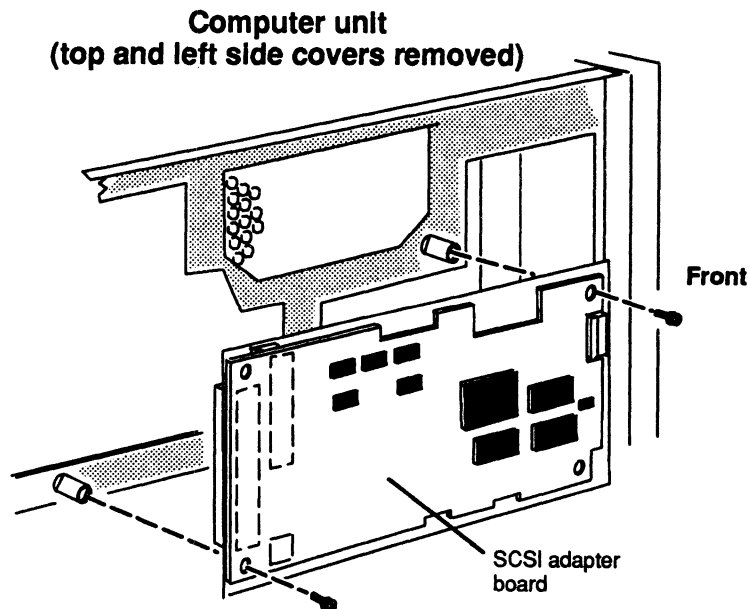

Figure 6-16 Removing or Installing the Screws that Attach the SCSI Adapter Board to the Computer Unit
3. Remove the two screws securing the SCSI adapter board to the front of the left side of the computer unit as shown in Figure 6-16.
2. Attach the SCSI adapter board to the computer unit with the two screws. Refer to Figure 6-16.